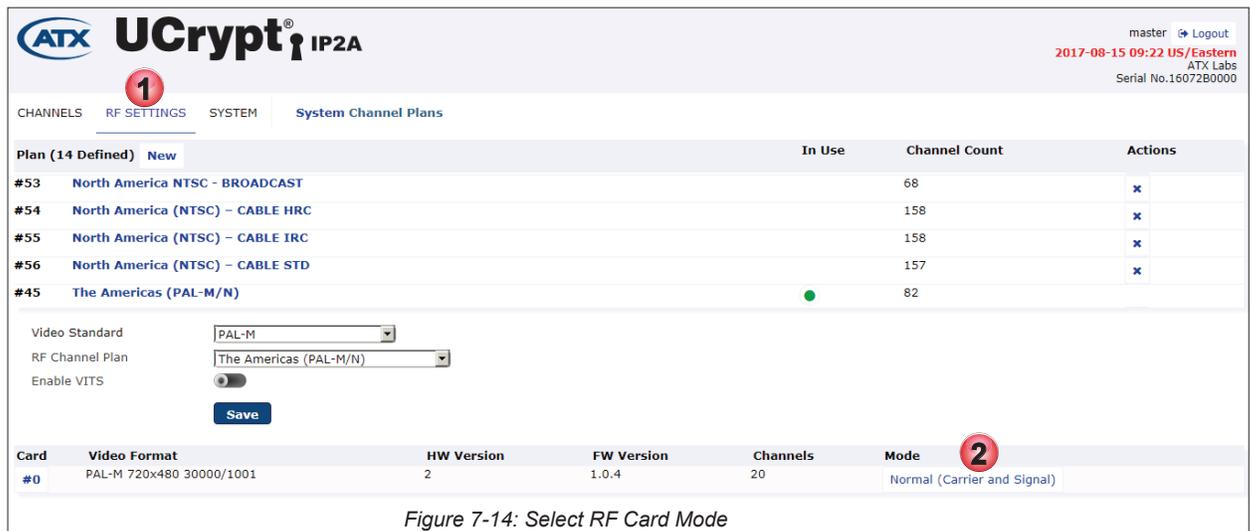

Figure 7-14: Select RF Card Mode
- Click the **RF Settings** Tab if it isn't already selected, Figure 7-14.